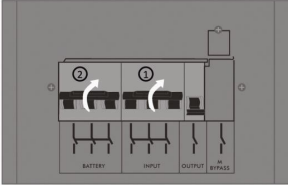

Figure 3.1
1. Switch on the *Input CB* first and then the *Battery CB* (Figure 3.1). Press and hold the *ON/OFF* button until a warning beep sound, meanwhile observe the r.